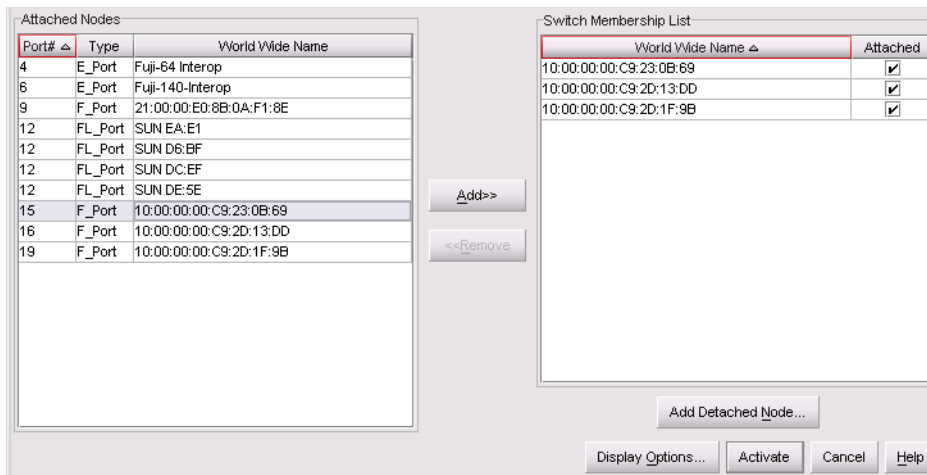

Figure 3-37 Switch Binding - Membership List Dialog Box
- a. At the *Hardware View* for each director or switch, click *Configure* and select *Switch Binding* and *Edit Membership List*. The *Switch Binding - Membership List* dialog box displays (Figure 3-37).